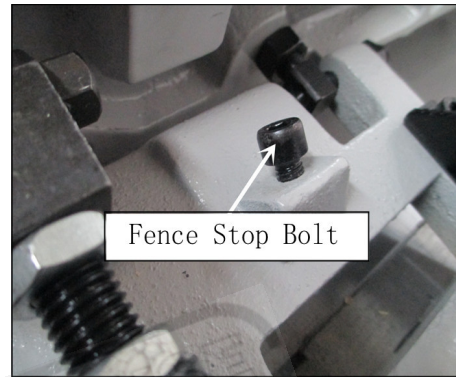

Figure 19
2. Adjust the 45° outward fence stop set screw until it makes contact with the back of the fence as shown in Fig. 19